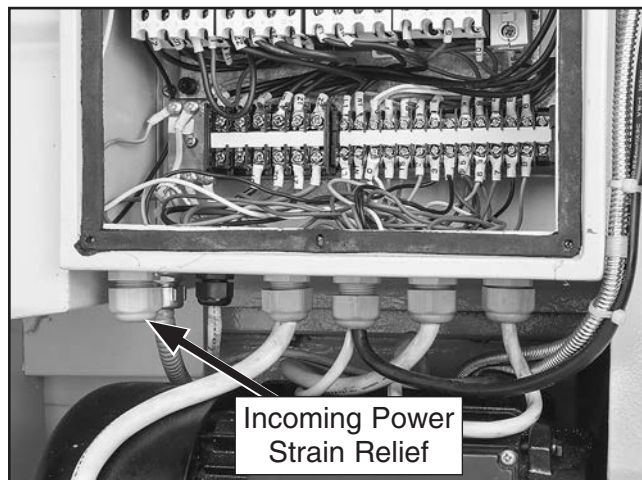

Figure 23. Location of hot wire terminals, ground terminal, and strain relief.
2. Thread power cord through strain relief shown in **Figure 23**.